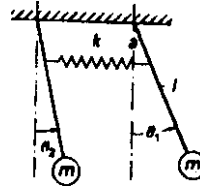

Fig. 1
1. Figure 1 shows two identical pendulums (of length l and mass m) connected by a spring of stiffness k . The points of attachment of the spring is at a distance a from the hinge points. The spring is undeformed when both the pendulums are vertical. Assuming small oscillations, obtain the two natural frequencies and the corresponding normal modes with θ_1 and θ_2 as the coordinates.